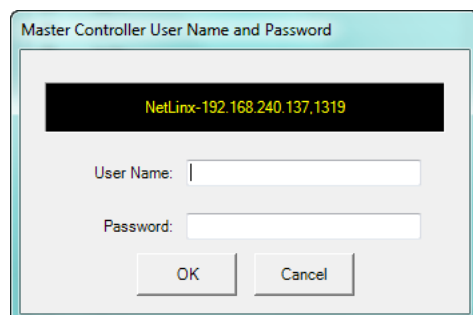

FIG. 45 Master Controller User Name and Password dialog
5. If the target NetLinx Master requires authentication to connect, select **Authentication Required**. This selection activates the **User Name and Password** button - click to open the *Master Controller User Name and Password* dialog (FIG. 45):